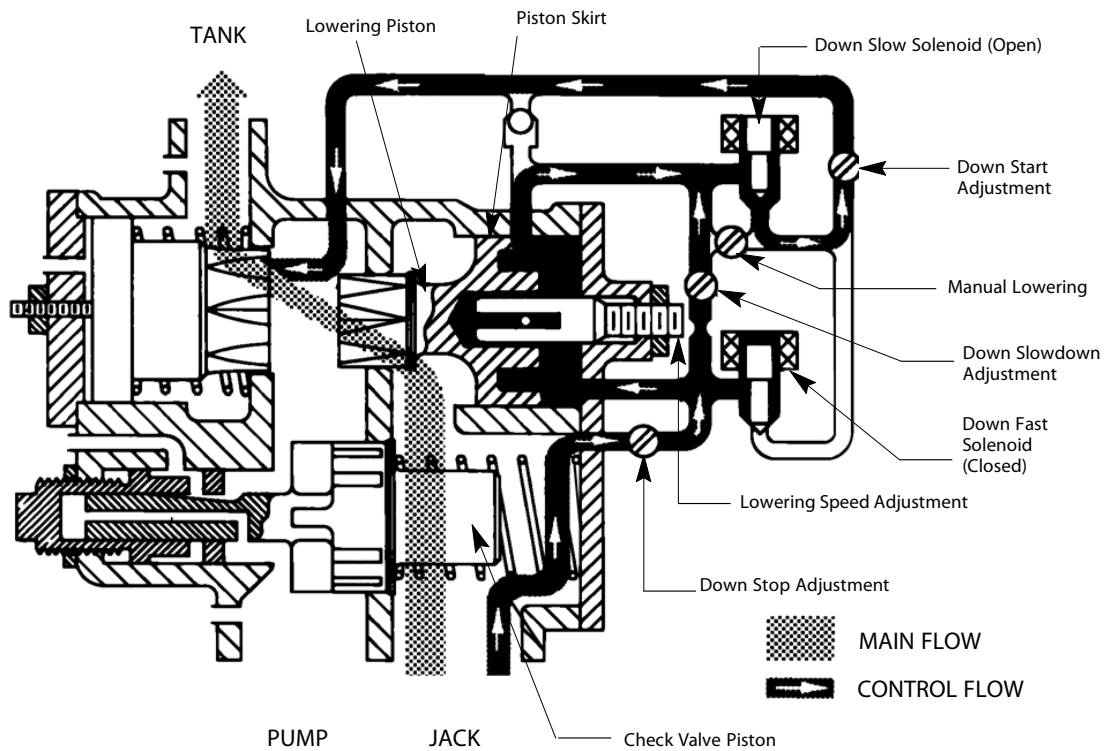

Figure 12 - Down Slowdown and Leveling Diagram
1. To change to leveling speed, the down fast solenoid is closed. The lowering piston starts in the full open position and the oil passage to the tank is blocked by the piston skirt. See Figure 12.